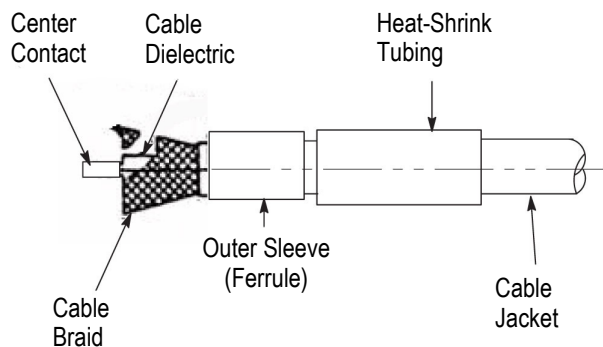

Figure 3
2. Heat the center contact with a soldering iron and carefully push it over the inner conductor to rest firmly against the dielectric. See Figure 3.